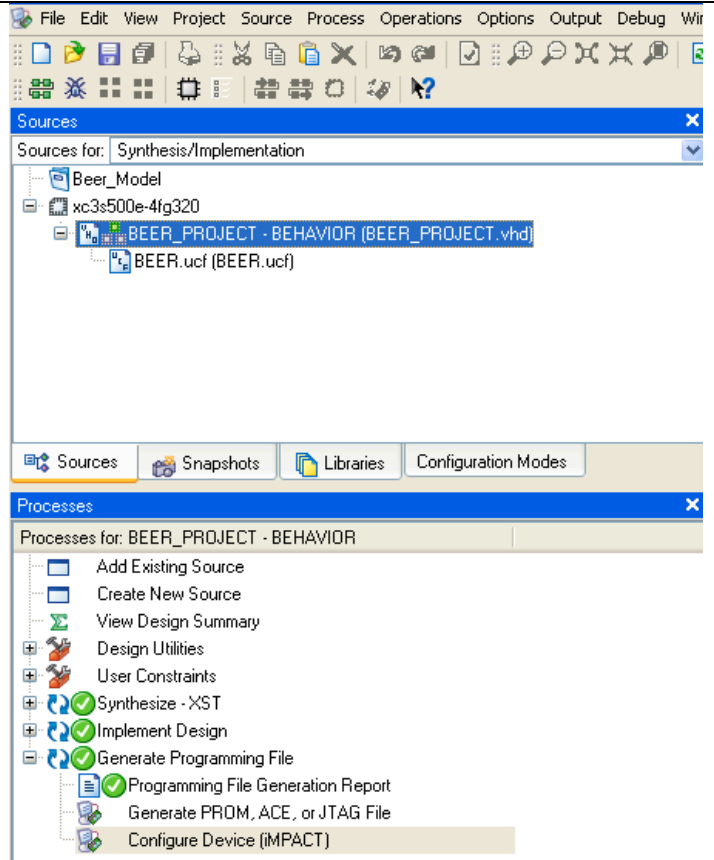

Figure 16: Generate Programming File
2. Double click on **“Configure Device (iMPACT)”** under the implement design on the left hand side. If all goes well, you should get green check marks on **“Programming File Generation Report”** as shown **Figure 16**.